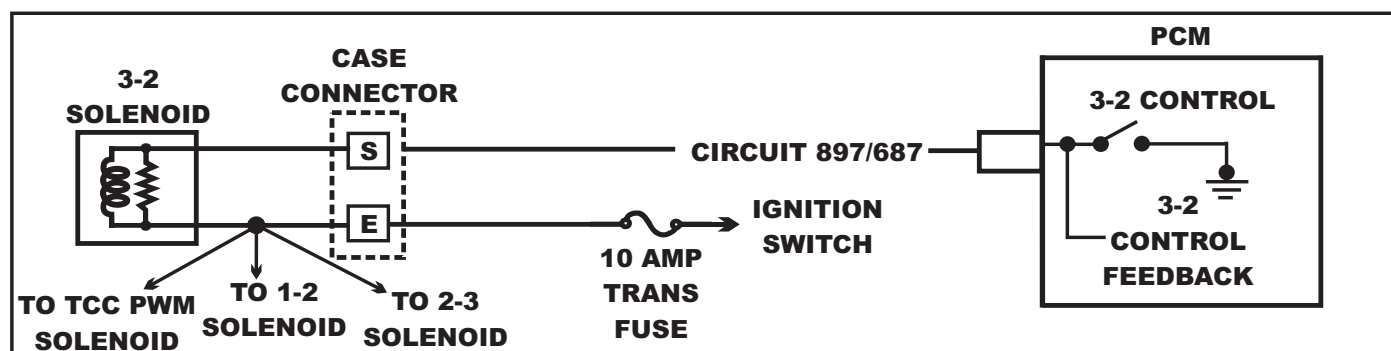

Figure 116
- Repair wiring as necessary by referring to the diagram in Figure 116.